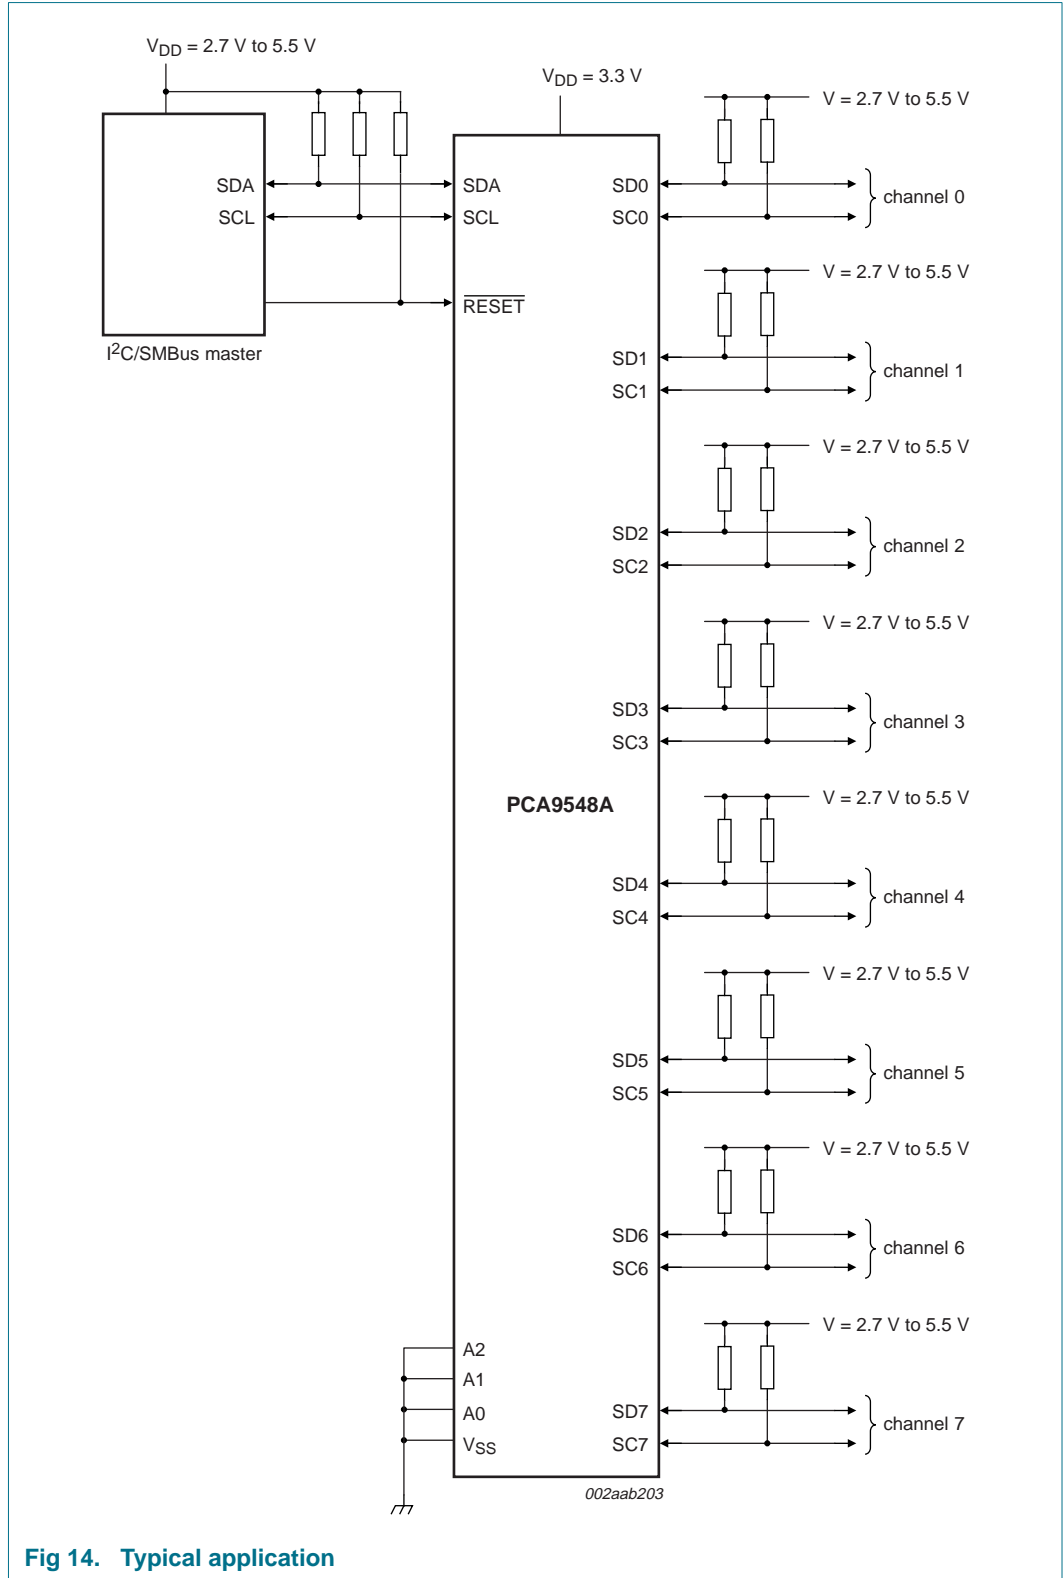

Fig 14. Typical application
Figure 7 shows the voltage characteristics of the pass gate transistors (note that the PCA9548A is only tested at the points specified in Section 10 “Static characteristics” of this data sheet). In order for the PCA9548A to act as a voltage translator, the VO(SW) voltage should be equal to, or lower than the lowest bus voltage. For example, if the main bus was running at 5 V, and the downstream buses were 3.3 V and 2.7 V, then VO(SW) should be equal to or below 2.7 V to effectively clamp the downstream bus voltages. Looking at Figure 7, we see that VO(SW)(max) will be at 2.7 V when the PCA9548A supply voltage is 3.5 V or lower, so the PCA9548A supply voltage could be set to 3.3 V. Pull-up resistors can then be used to bring the bus voltages to their appropriate levels (see Figure 14).